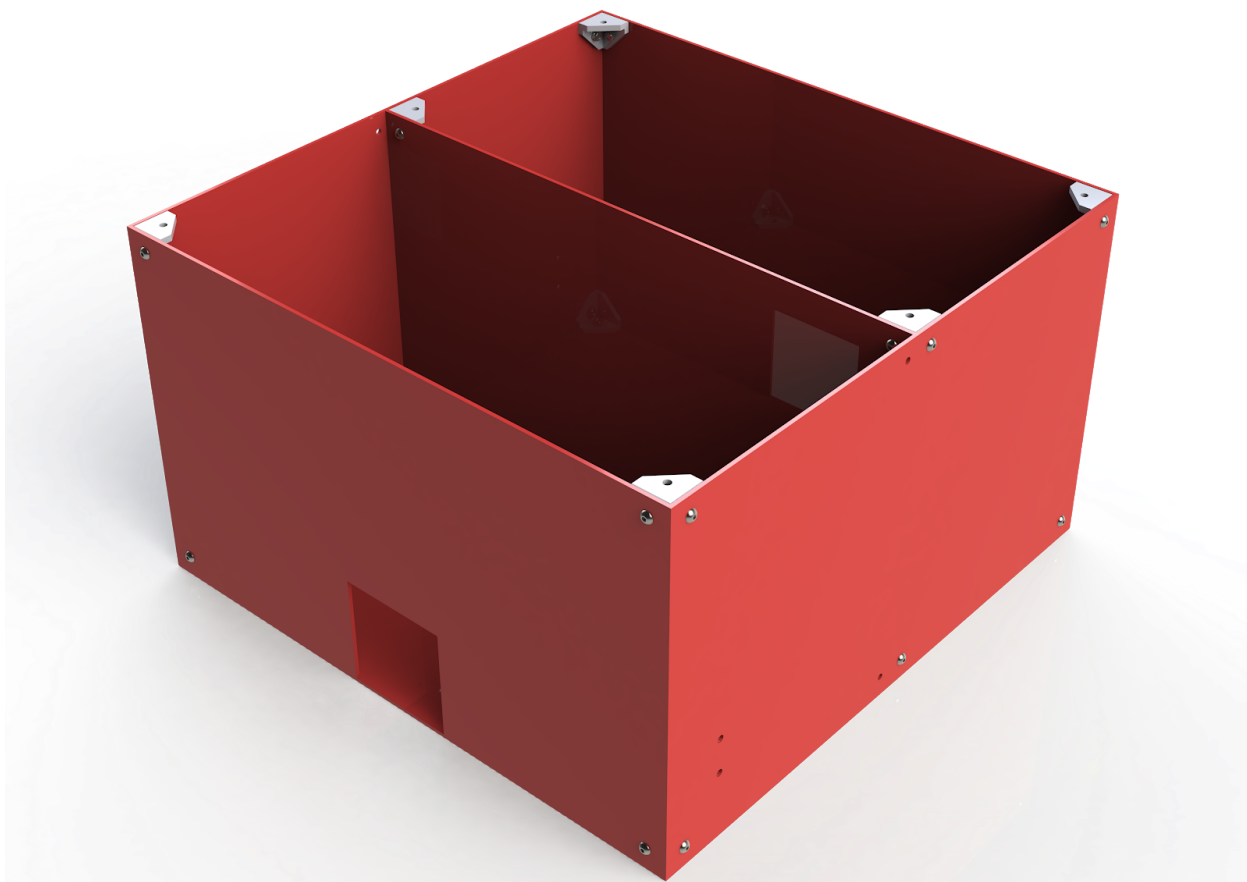
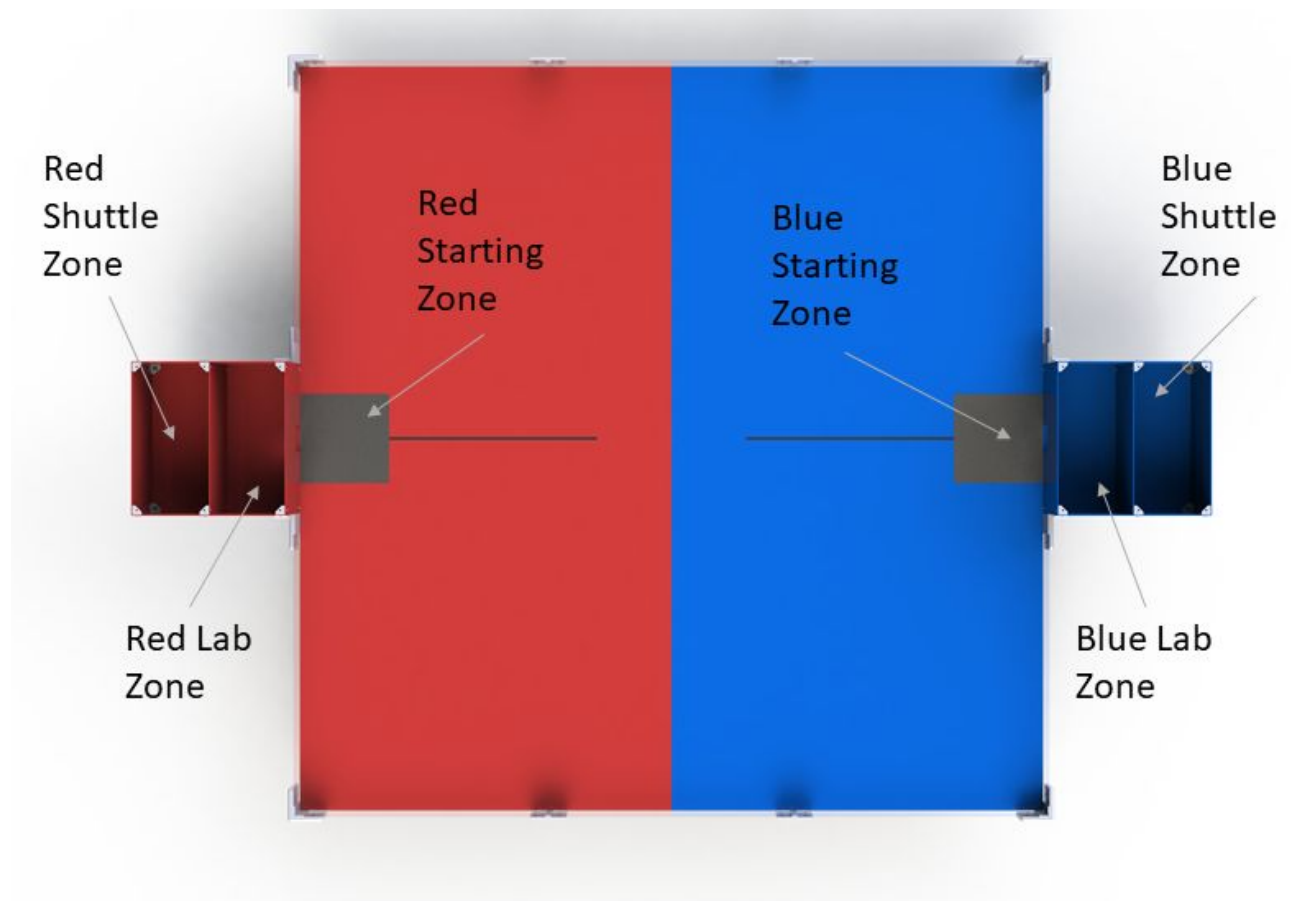

Figure 3: Starting Box
Figure 4: Field and scoring areas
1. There is 1 type of scoring object in play, spheres (as seen in figure 3) - these are standard ping pong balls. They are arranged in a within an alien monolith as in figure 4 and five of such monoliths will be lined up along the middle line between the 2 team's zones. Please take note that the tube utilized in this competition is open on both sides. Teams are expected to destroy the monoliths by push and toppling them, breaking them down into mineral spheres and introducing the spheres into the environment.